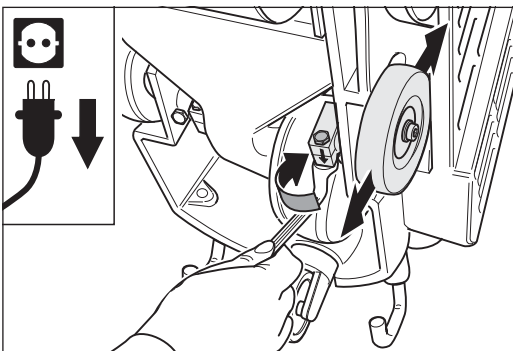

Fig. 83 Release the screw on the right-hand wheel clamp.
- 7 Release the clamping screw at the wheel clamp of the adjustable wheel (Fig. 83) and place the setting fixture against the machine housing again.